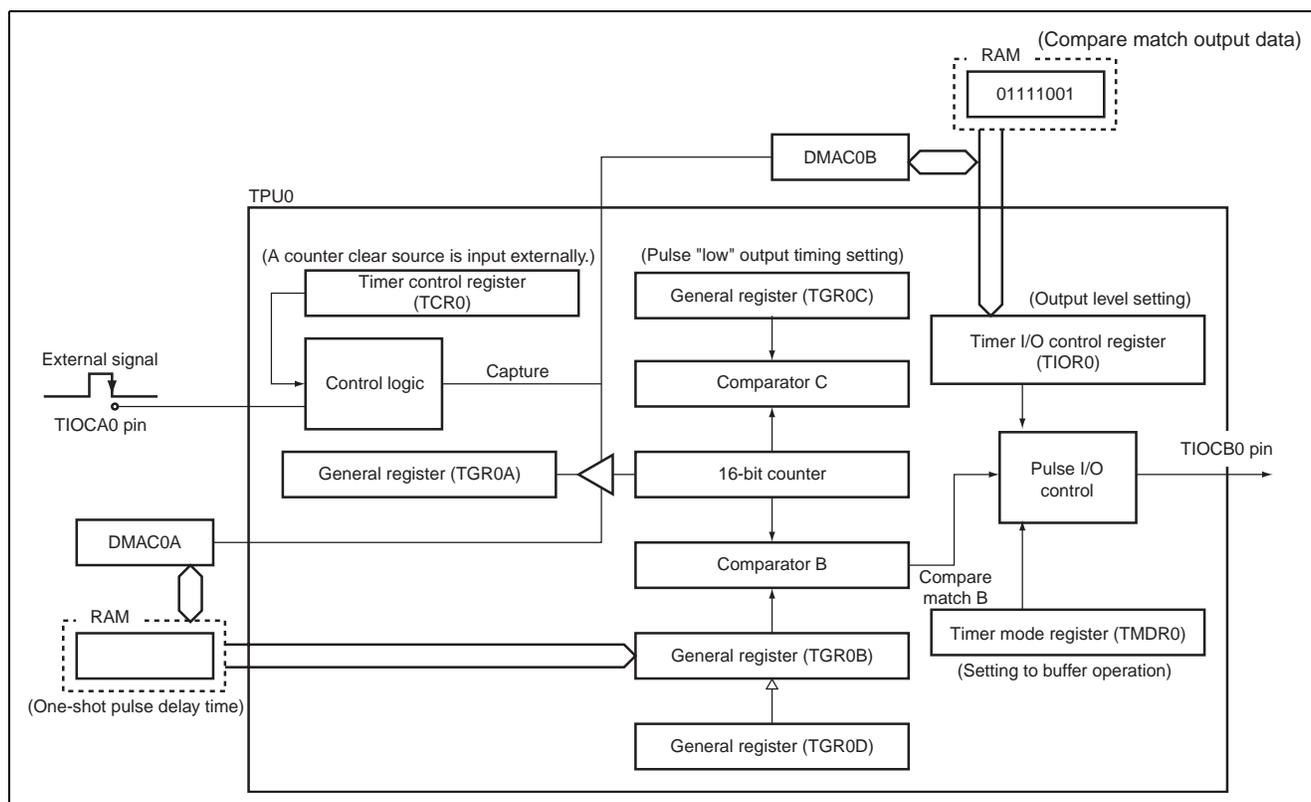

Figure 2 Block Diagram of One-Shot Pulse Output
A. The block diagram of internal functions used in this sample task is shown in figure 2.